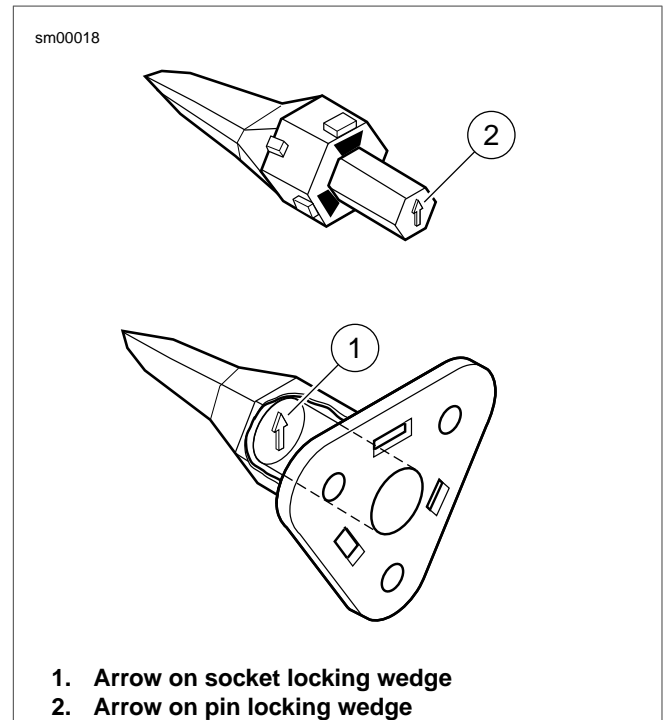

Figure A-31. Deutsch DT Sealed Connector: 3-Place Locking Wedges
- See Figure A-31. While rectangular wedges do not require a special orientation, align arrow (1) on conical secondary locking wedge towards external latch for three-place connectors.